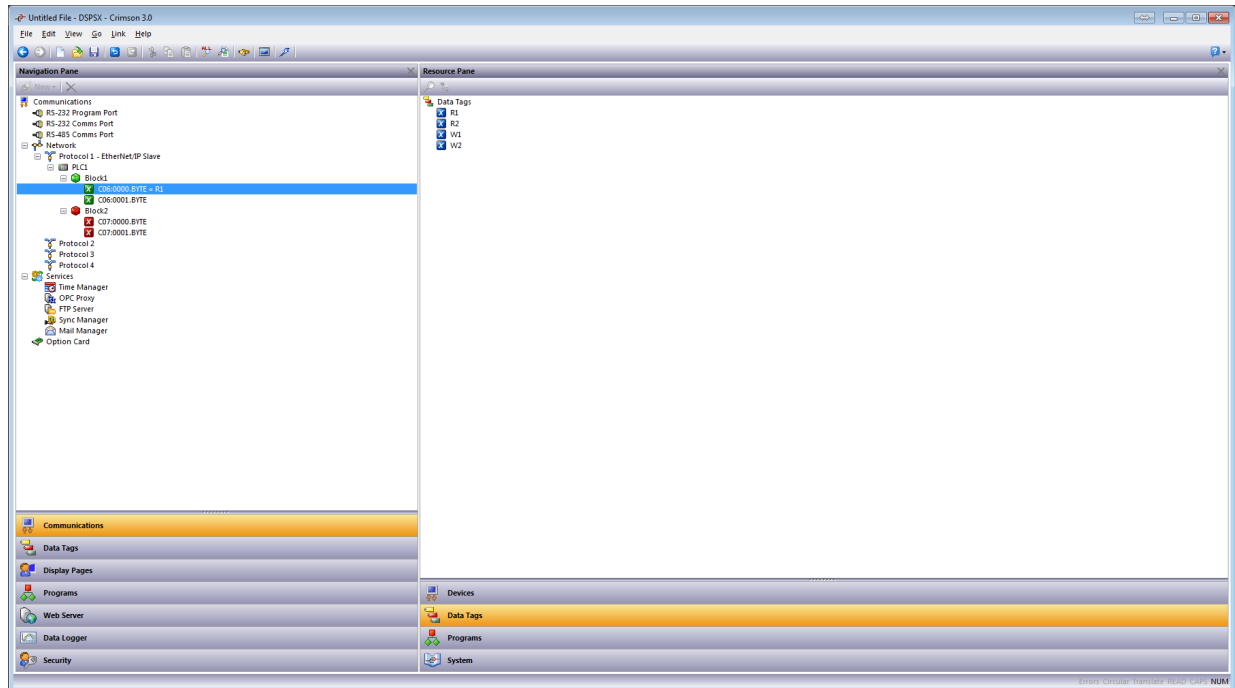

Figure 12.
5. Referring to Figure 12, navigate back to the Communications section.